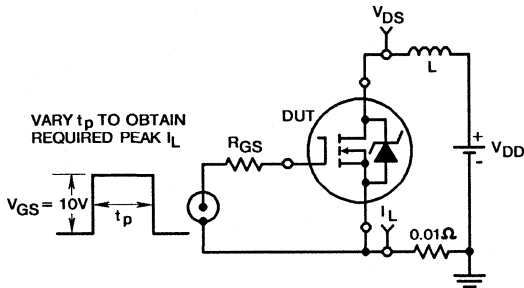

Figure 14 — Unclamped Energy Test Circuit
4. $V_{DD} = 50V$, Start $T_J = +25^\circ\text{C}$, $L = 4.5\text{mH}$, $R_{GS} = 25\Omega$, $I_{PEAK} = 14A$ (See Figures 14 & 15)
(See Figure 14, $L = 100\mu\text{H}$)